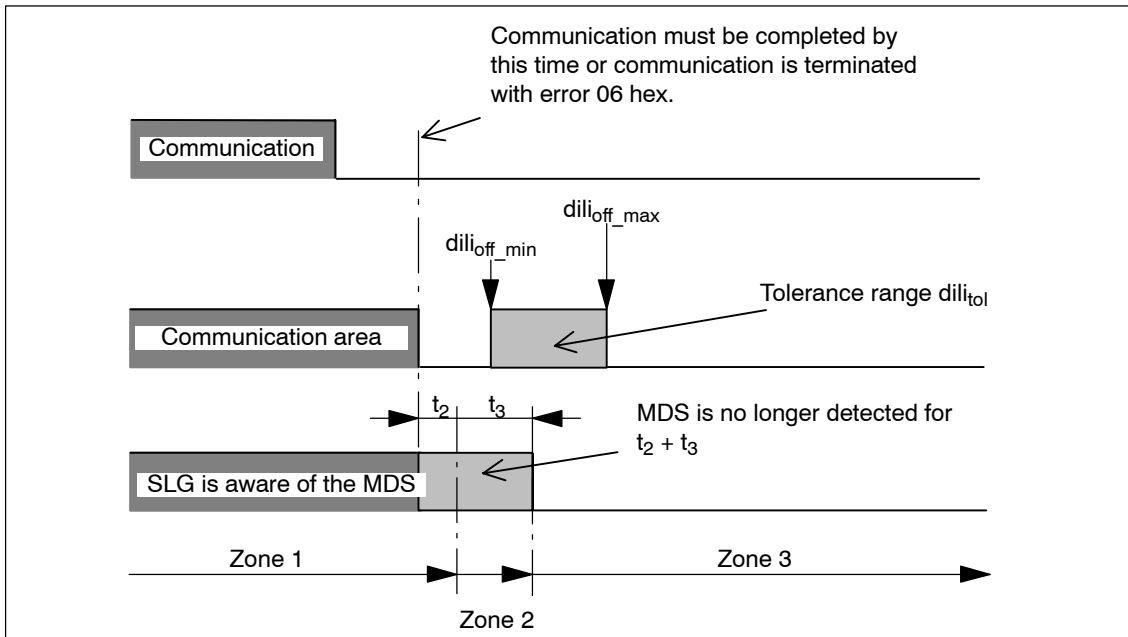

Figure 3-10 Exit from zone 1 (before the range limit is reached)
- c) The MDS exits the SLG's field before reaching the range limit. However, communication is terminated within the range limit and within the field. This means that the field is smaller than the range limit at this point (see Figure 3-10).